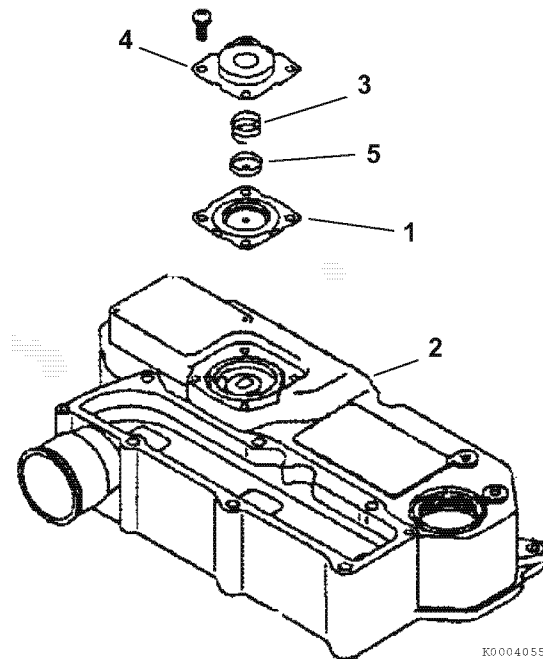

Figure 5-15
The TNV engines use a crankcase breather system that has a spring-backed diaphragm (Figure 5-15, (1)) in the valve cover (Figure 5-15, (2)). When the crankcase pressure reaches a predetermined value, the diaphragm opens a passage that allows crankcase fumes to be routed to the intake manifold.
To inspect the diaphragm and spring (Figure 5-15, (3)):
1. Remove the bolts retaining the diaphragm cover (Figure 5-15, (4)).
2. Remove the diaphragm cover, spring, diaphragm plate (Figure 5-15, (5)) and diaphragm.